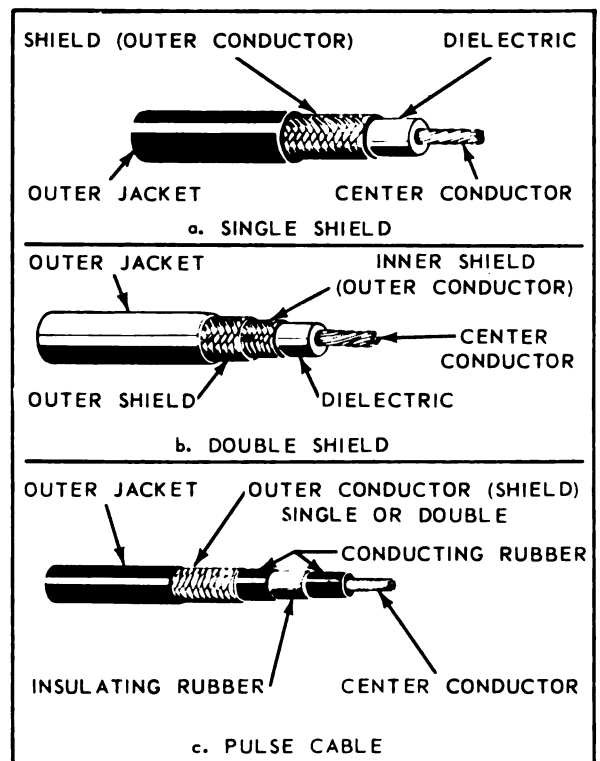

Figure 4-7. Typical Coaxial Cables
4-7. COAXIAL CABLE. Coaxial cable consists of an inner (center) conductor separated from the outer conductor, usually called a shield, by an insulating dielectric. The cable is protected against moisture and abrasion by a tough outer jacket (sometimes called a sheath). See figure 4-7 for typical coaxial cables. The inner conductor is usually copper, either solid or stranded, and may be bare, tin plated or silver plated. The outer conductor (shield) is usually a copper braid, bare, tin plated or silver plated, woven over the dielectric. Some coaxial cables have a double outer conductor (double shield) to provide extra shielding. The dielectric has two functions: (1) it provides low loss insulation between the inner conductor and the outer conductor, (2) it maintains the relative position of the inner conductor inside the outer conductor and therefore keeps the capacitance between the two at a constant value.